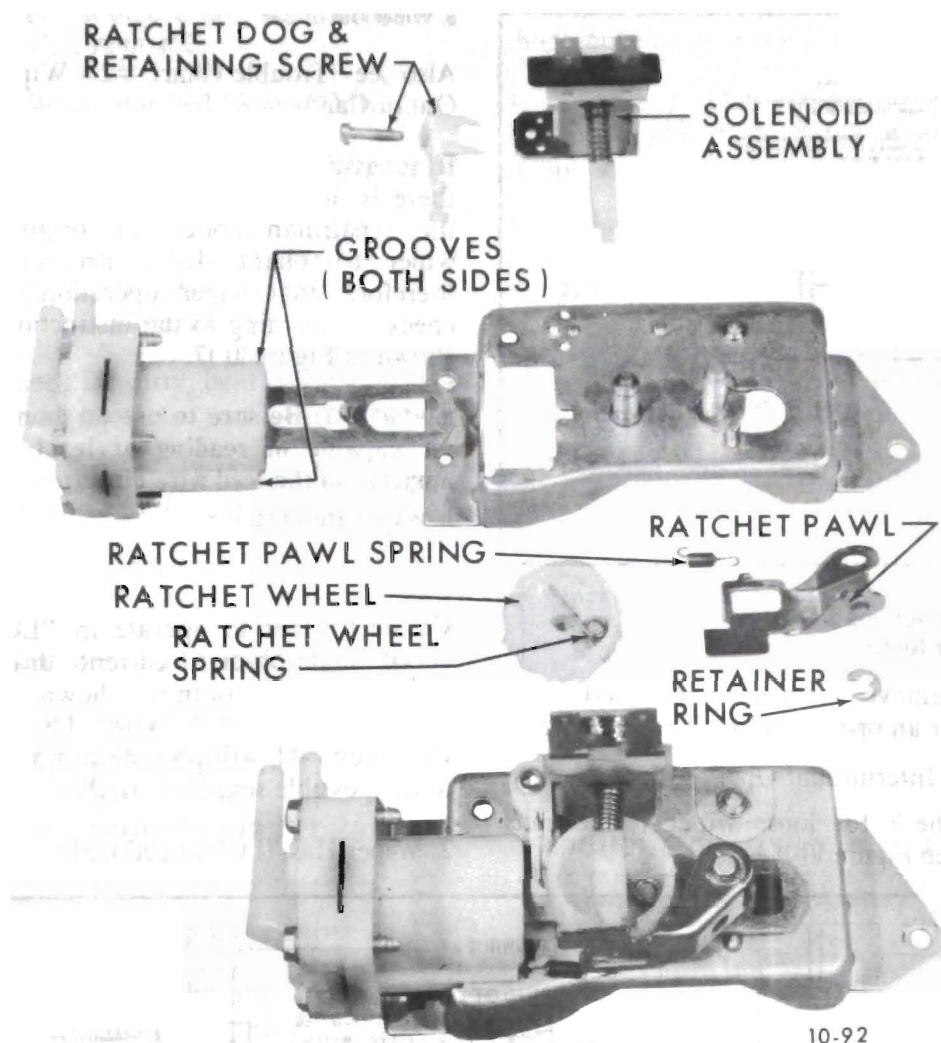

Figure 10-16 - Washer Pump - Exploded
10. Operate wiper motor to park position and install crank arm as shown in Figure 10-16. **CLAMP CRANK ARM IN A VISE** and tighten retaining nut to 80 lb.in.
1. Remove the ratchet dog retaining screw. Hold the spring loaded solenoid plunger in position and carefully lift the solenoid assembly and ratchet dog off the frame of the pump. See Figure 10-16.